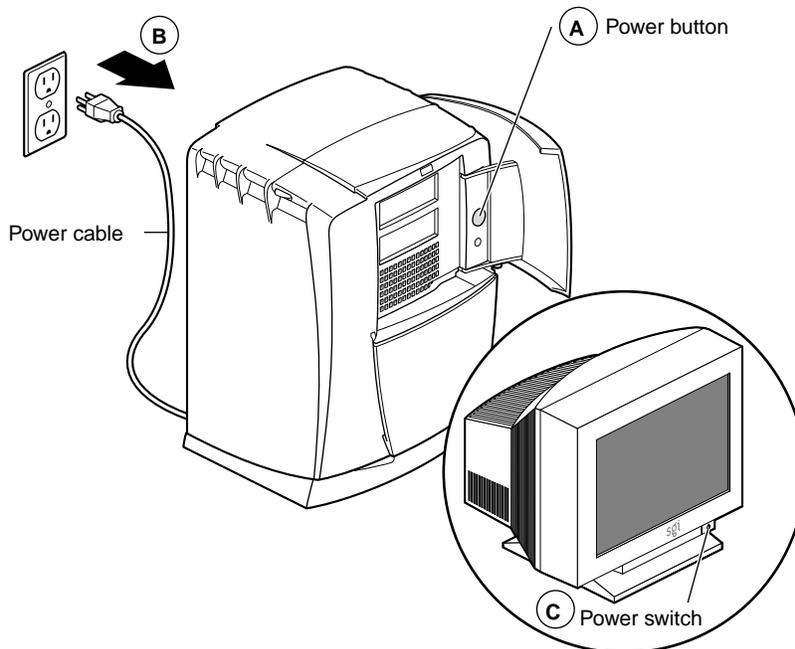

Figure 5-3 Powering Off the Octane2 Workstation
1. Open the cover and press the power button (see A in Figure 5-3) to power off your workstation.
2. Unplug the power cable (B).
3. Power off the monitor by pressing the monitor power switch (C).